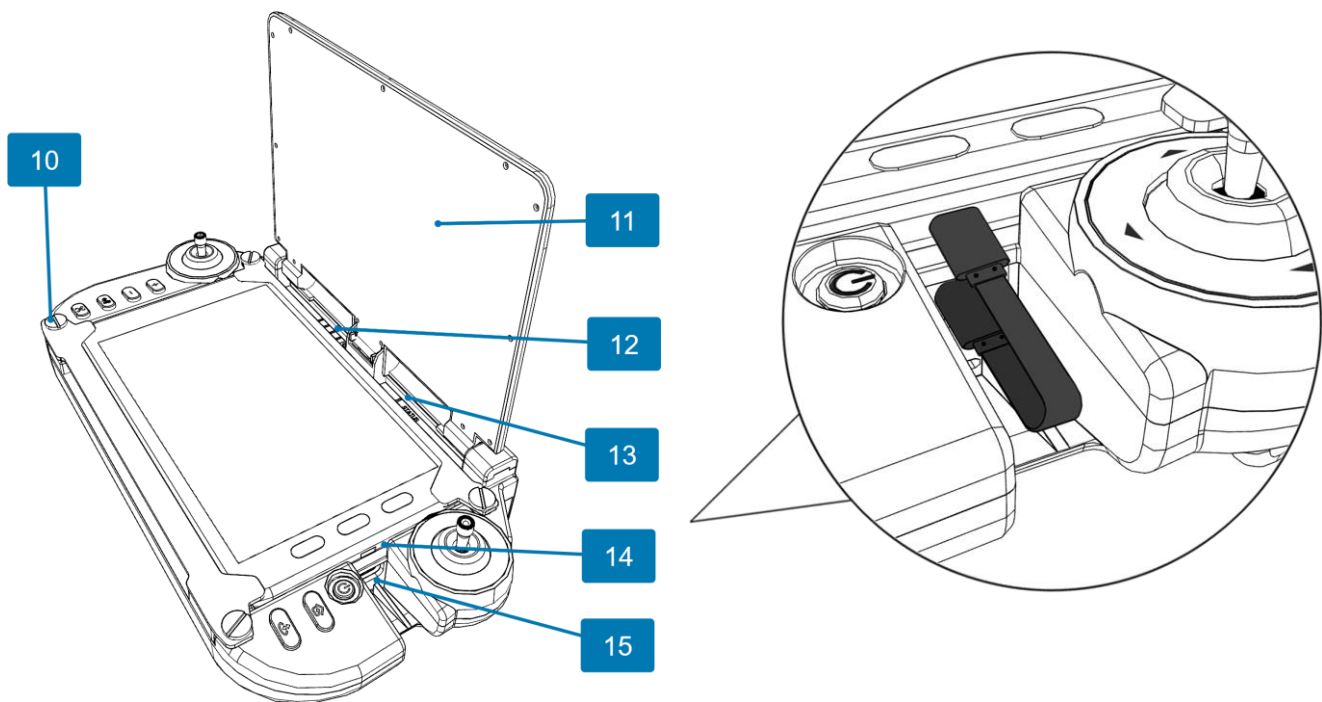
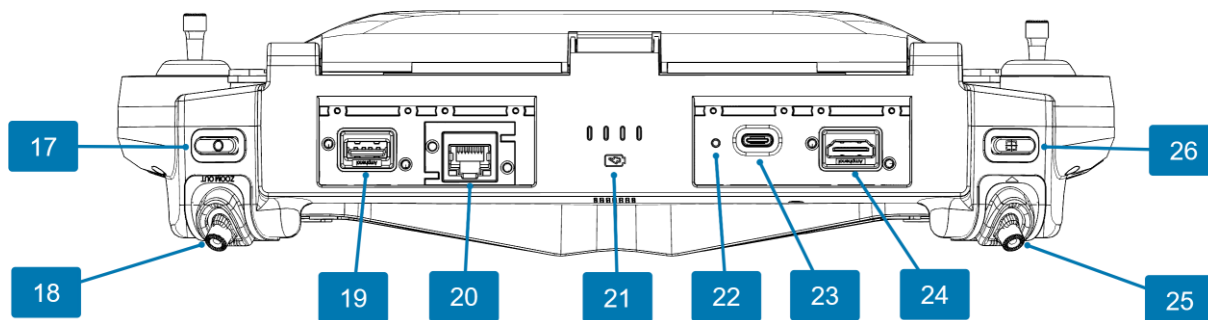

Figure 4: Skycontroller UKR open, showing USB-C to USB-C cable
Figure 5: Skycontroller UKR rear view, plastic covers removed
NOTE: Nos. 19, 20, 22, 23, and 24 (Figure 5) are underneath the 4 plastic covers on Skycontroller UKR. The plastic covers are not shown in the image above for clarity.
The device on Skycontroller UKR is held in place by 2 brackets and 4 screws (No. 10 in Figure 4). The device can be removed or replaced by unscrewing the screws and lifting the device out of Skycontroller UKR.
Press and hold the **Power** button (No. 7 in Figure 4) for 2 seconds to turn on the Skycontroller UKR.
- USB-A port (No. 19 in Figure 5) – used for drone/controller pairing
- Ethernet port (No. 20 in Figure 5) – used for remote antenna connection, webserver access
- USB-C charging port (No. 23 in Figure 5) – used for charging
- HDMI port (No. 24 in Figure 5) – used for video output
When the Skycontroller UKR is powered on, its status LED indicator (No. 13 in Figure 4) and its charging LED (No. 12 in Figure 4, No. 21 in Figure 5) provide an instant visual indication: